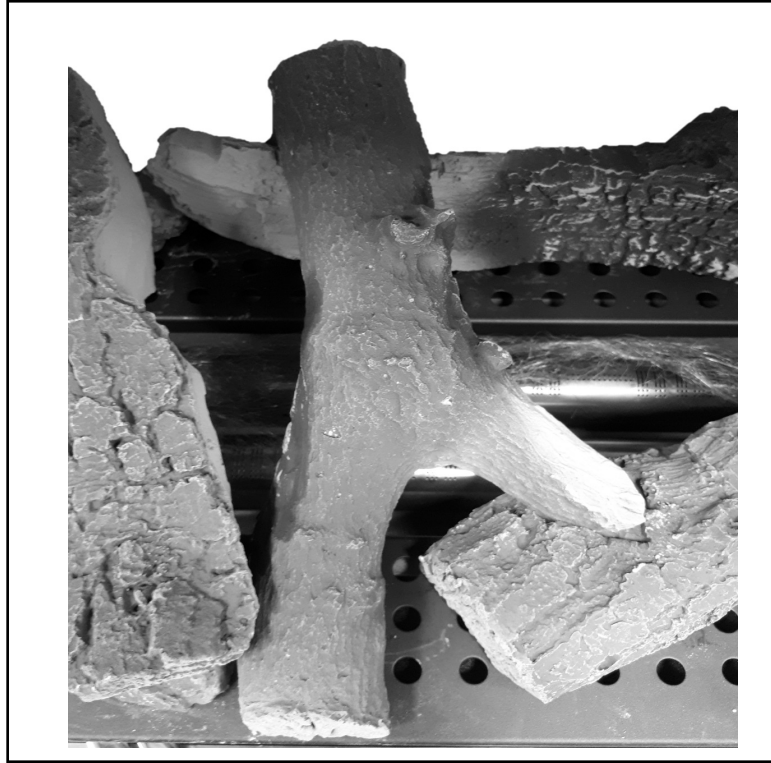

Fig. 11
11. Place Log '11' so that it is resting at the front on the metal base between Log '4' and Log '3' and to its rear on Log '2' as shown in fig.11.
Note: Ensure that the branch of Log '11' rests on Log '3' as shown in fig.11.